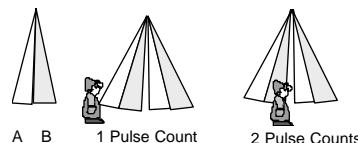

Figure 3 - Pulse Count
Each of the 35 fingers is split into 2 separate detection zones (A and B in Figure 3). Any change in infrared energy within a zone is considered one (1) pulse. If two zones detect changes in infrared energy, it represents two (2) pulses. Three zones registering changes would be three (3) pulses, etc..